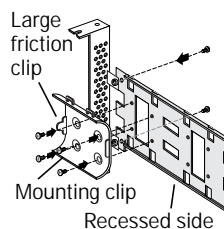

Figure 1
- 2 Attach the full-height bracket to the mounting plate, as shown in Figure 1. The full-height bracket is installed on the front side of the mounting plate (the side with the bents), with the mounting screws inserted from the back. Be sure to attach the mounting plate to the bracket with the recessed side at the bottom!
- 3 Choose a location for the mounting clip at the front or back of the mounting plate. Then, attach the mounting clip to the mounting plate with four (4) Phillips screws, as shown in Figure 1. The large friction clip should face the *front* of the mounting plate.